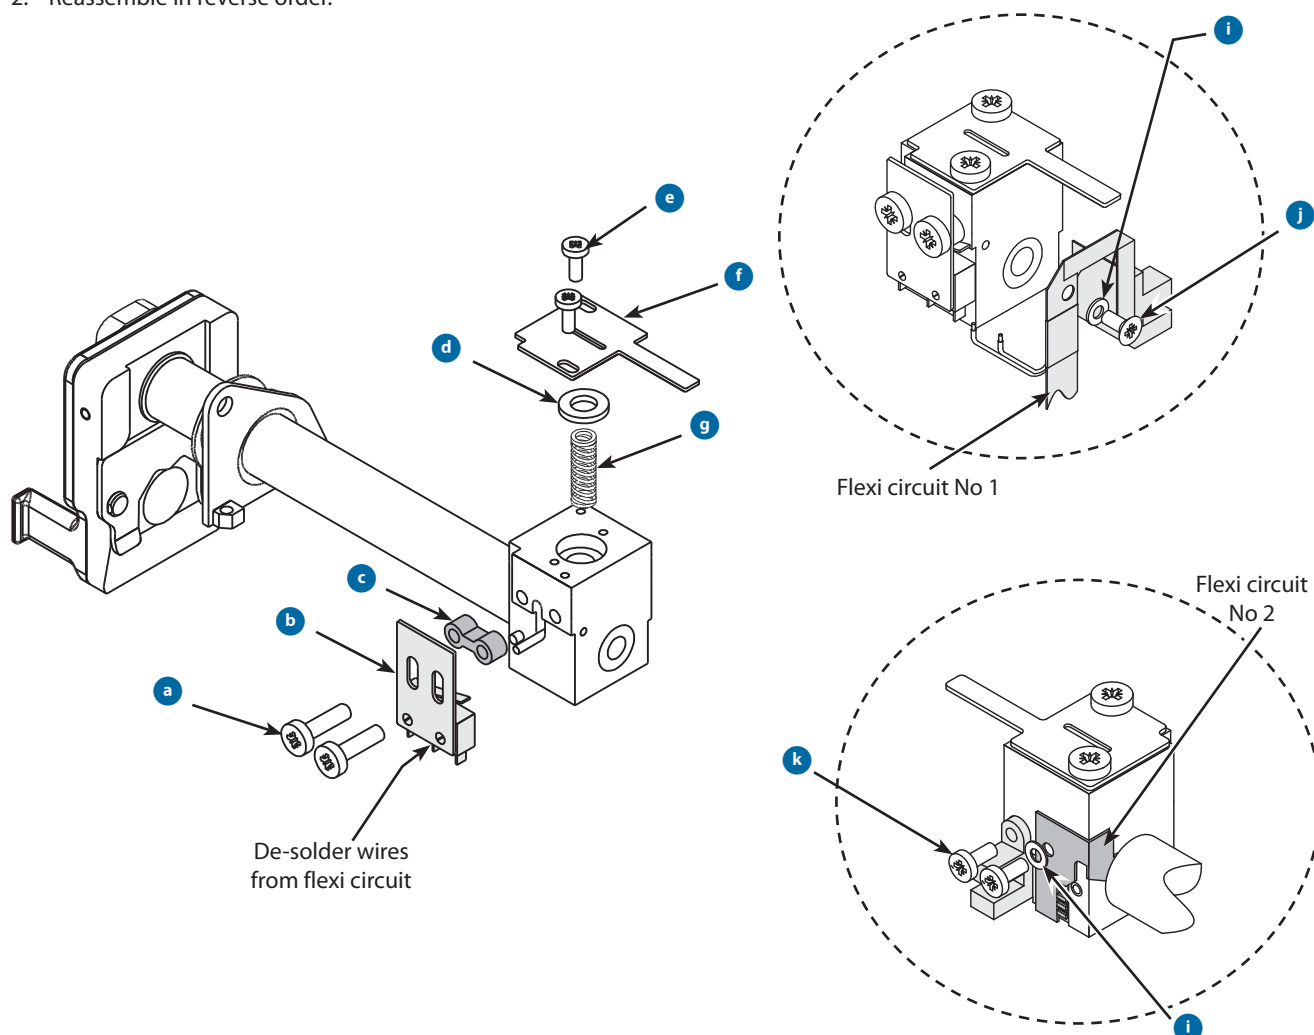

Figure 1. Transmission Assembly Breakdown
1. To breakdown the carriage, outer tube and plunger assembly, refer to the diagrams on the following pages (Figures 1, 2, 3 and 4), removing components as required.